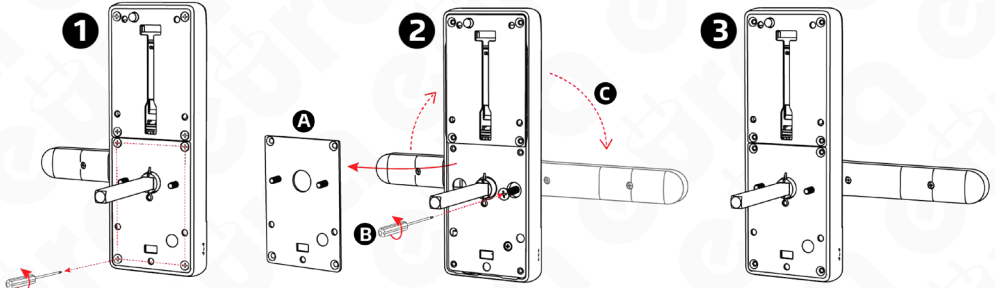

Fig. 6.
- Unscrew the 4 screws from the base of the plate holding the cover (fig. 6)
- Remove the cover (fig. 6 position 1-A)
- Unscrew the locking screw (fig. 6 position 2-B)
- Set the handle in the desired opening direction (fig. 6 position 2-C)
- Replace the cover and screw in the mounting screws (fig. 6 position 3)